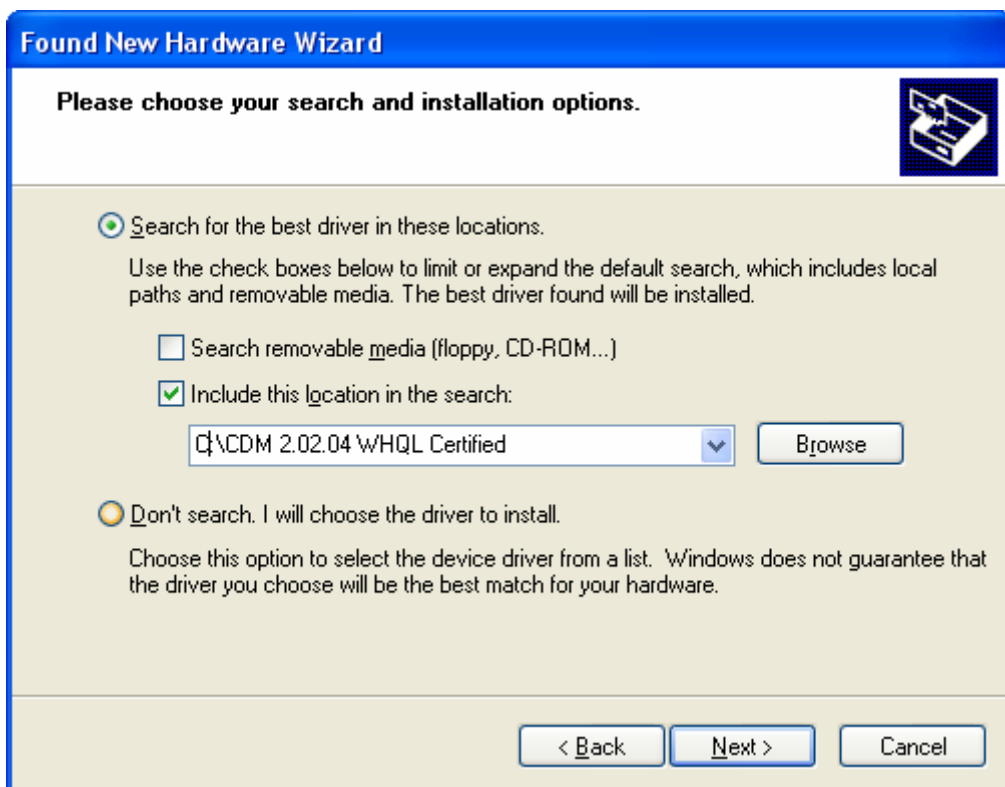
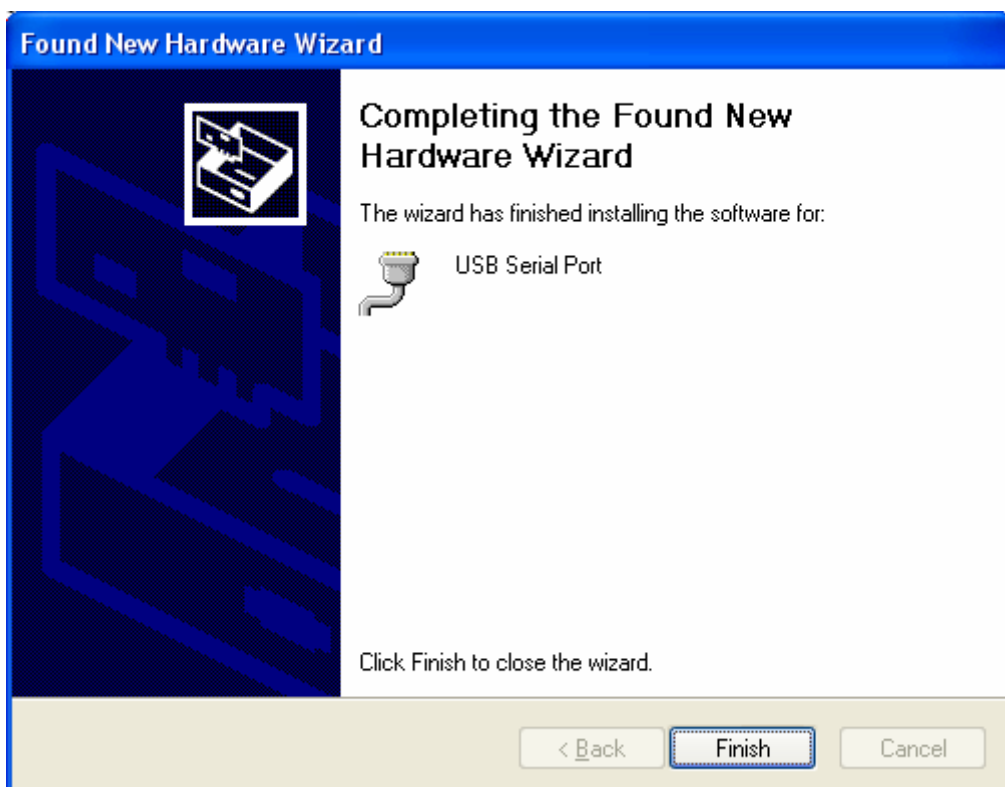

Fig. 11
Fig. 12
Select „Search for the best driver in these locations“ in the displayed Window (Fig. 11) and check box „Include this location in the search: “, select „Browse“ and to indicate directory, where the file „CDM 2.02.04 WHQL Certified.zip“ has been extracted. Press „Next>“
Displayed Window (Fig. 12) means that your PC has found file necessary for driver's installation and successfully installed it. Press „Finish“Installation of „USB Serial Port“is finished.
**Attention!** If Window is not displayed (Fig. 12) it means that the file necessary for installation has not been found. Check whether path towards directory of extracted „CDM 2.02.04 WHQL Certified.zip“file specified in Window (Fig. 11) is correct. Press „<Back“to return to Window (fig.11) and check whether directory of extracted file „CDM 2.02.04 WHQL Certified.zip“ is correct.